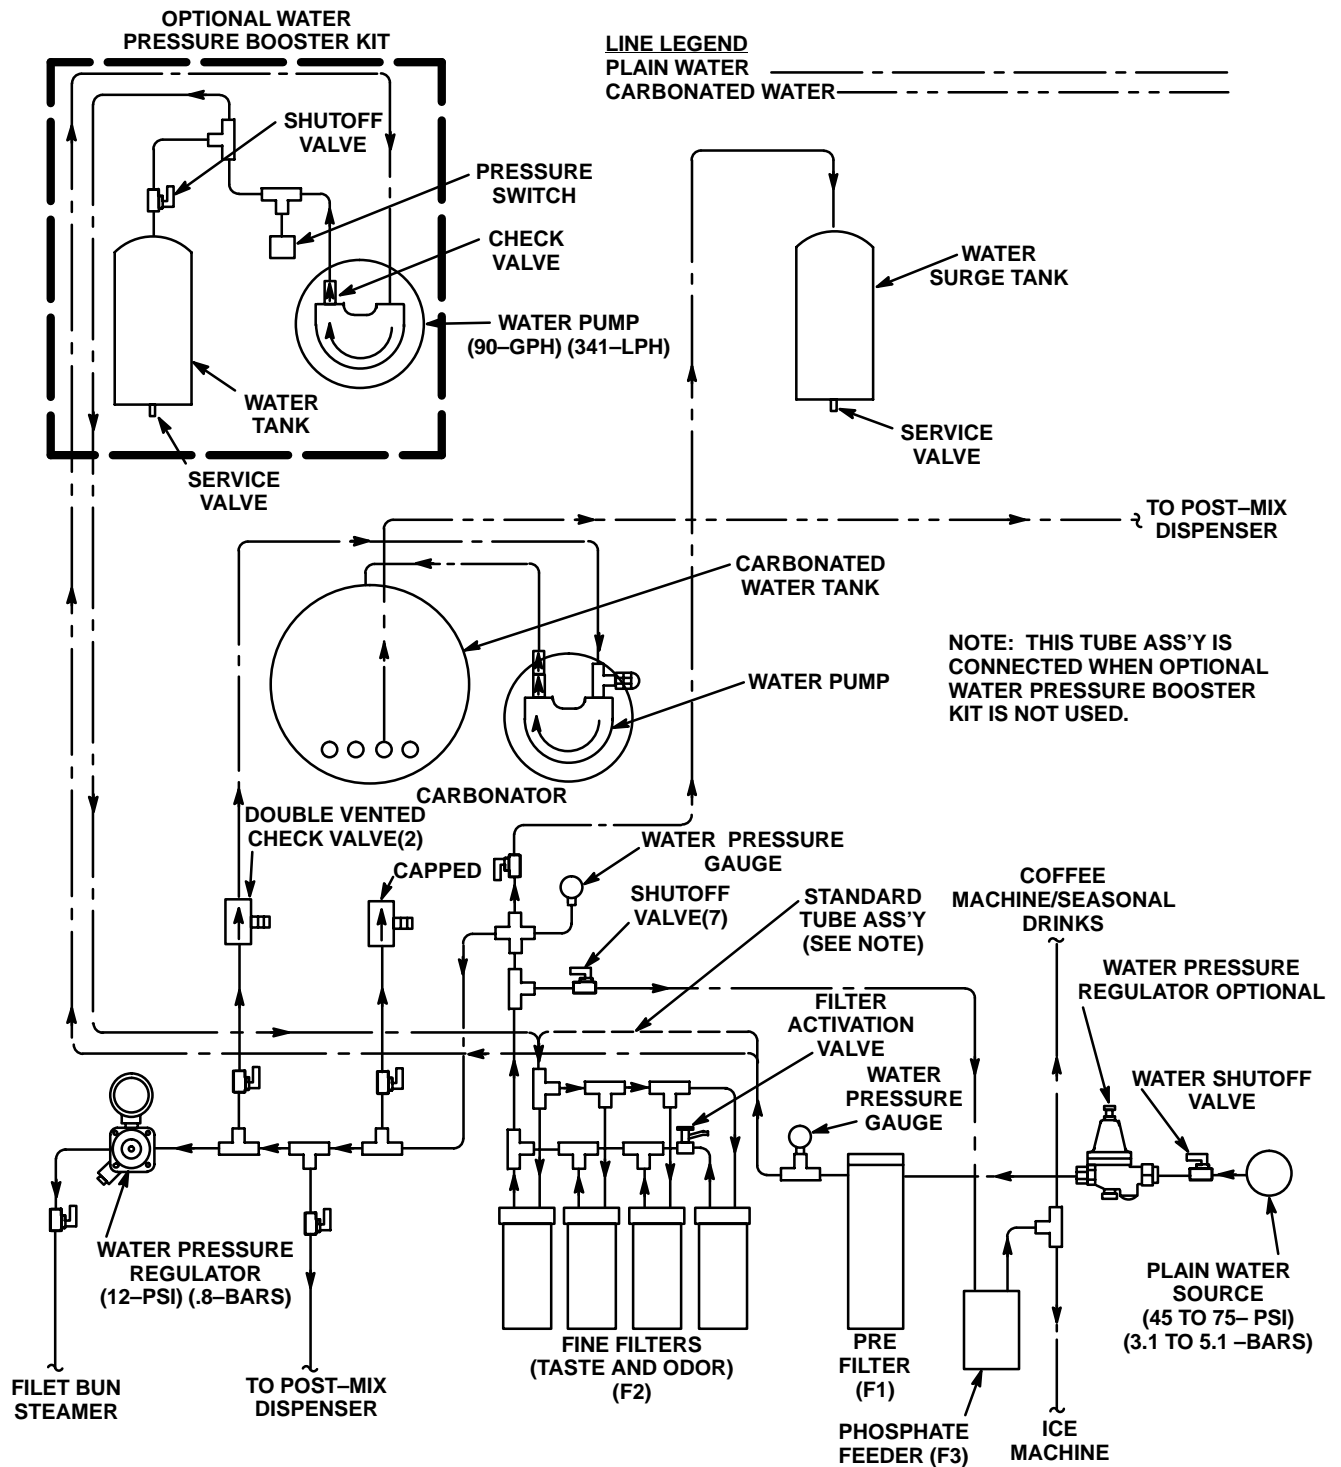

FIGURE 3. PLAIN AND CARBONATED WATER SYSTEMS FLOW DIAGRAM W/EVERPURE WATER FILTERS (MODELS 1416 AND 1548)
4. Place STRAP, SURGE TANK (item 2) in position around water surge tank and align holes in strap with holes in frame where two self-drilling screws were removed.
6. Connect one end of TUBE ASS'Y (item 33) to water surge tank elbow 3/8-inch flare (5/8-18) fitting as shown in applicable Figure 3, 4, 5, or 6. Seal connection with TAPERED GASKET, BLACK (item 4).
7. Connect other end of tube assembly to water manifold assembly 3/8-inch flare (5/8-18) fitting on water filter assembly (see applicable Figure 3, 4, 5, or 6). Seal connection with TAPERED GASKET, BLACK (item 4).
4. Using .156 I.D. tubing provided in installation kit, connect one end of tubing to vented double check valve (see applicable Figure 3, 4, 5, or 6), then route other end of tubing to a permanent floor drain.
5. Beverage Control Panel Assembly equipped with Everpure water filters (see applicable Figure 3 or 5).
7. Installation with the Optional Water PressureBooster System Kit (see applicable Figure 3, 4, 5, or 6)
8. Water Surge Tank (see applicable Figure 3, 4, 5,, or 6)